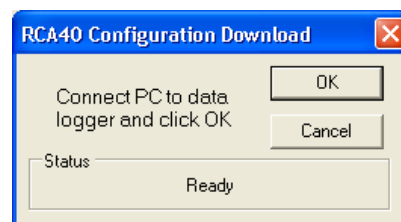

Figure 27 - Configuration Download Dialog
1. Choose **Setup** → **Data Logger** from the main menu. The Configuration Download Dialog (Figure 27) appears.